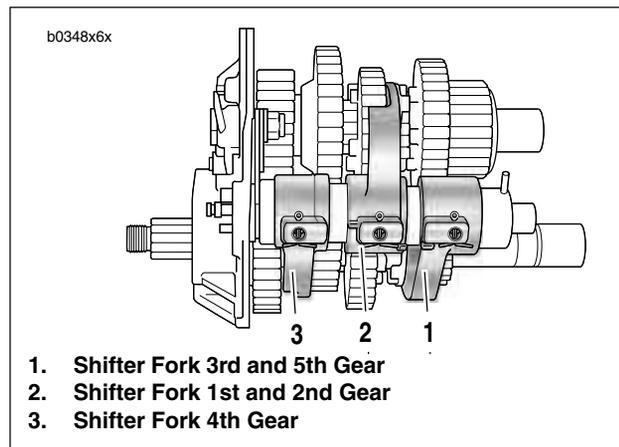

Figure 6-33. Shifter Fork Identification
1. See Figure 6-33. Identify all shifter forks before assembly. Note shape of fork and location of fork pin holes.
- b. Place 3rd and 5th gear shifter fork (1) in the fork groove of mainshaft 2nd gear. Be sure the flat side of fork is facing the access cover.
- c. Place 1st and 2nd gear shifter fork (2) in the fork groove of countershaft 3rd gear. Be sure the flat side of fork is facing away from the access door.
- d. Place 4th gear shifter fork (3) in the fork groove of mainshaft 1st gear. Be sure the flat side of fork is facing away from the access door.
The cotter pins must be inserted through the shifter forks as shown in Figure 6-33. This will prevent possible damage to the cotter pins.